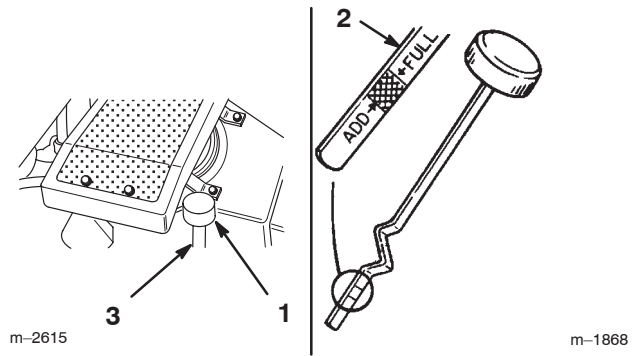

Figure 19
2. Clean around the oil dipstick (Figure 19) so dirt cannot fall into the filler hole and damage the engine.
3. Unscrew the oil dipstick and wipe the metal end clean (Figure 19).
4. Slide the oil dipstick fully into the filler tube, do not thread onto tube (Figure 19). Pull the dipstick out and look at the metal end. If oil level is low, slowly pour only enough oil into the filler tube to raise the level to the full mark.
5. Slowly pour approximately 80% of the specified oil specified, page 22, into the filler tube (Figure 19).